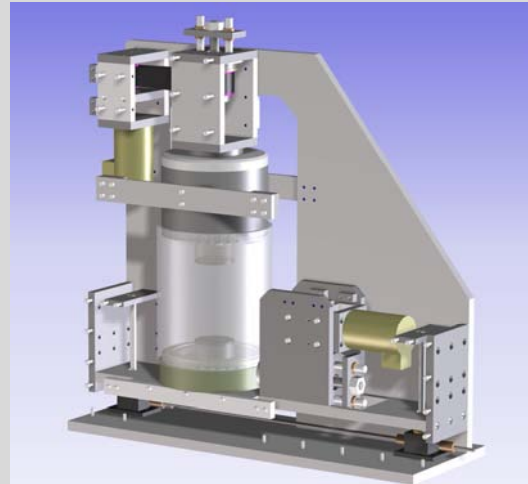

Fig. 2 Both tests are interchangeable on one carriage
- The system can carry out Simple Shear and Triaxial testing (a cell shown in Fig. 2)